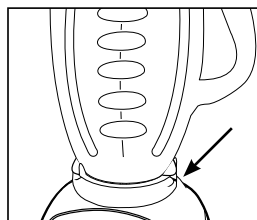

FIGURE 6
7. **Line up tabs of jar with tabs on blender base.** Make sure the tab of the jar on the *left* side is in the back of the tab of the blender base and the tab of the jar on the right side is in front of the tab of the blender base. Make sure jar is seated into position. (*Figure 6*)